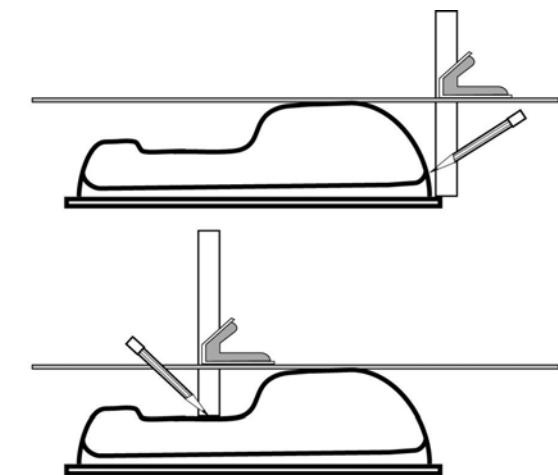
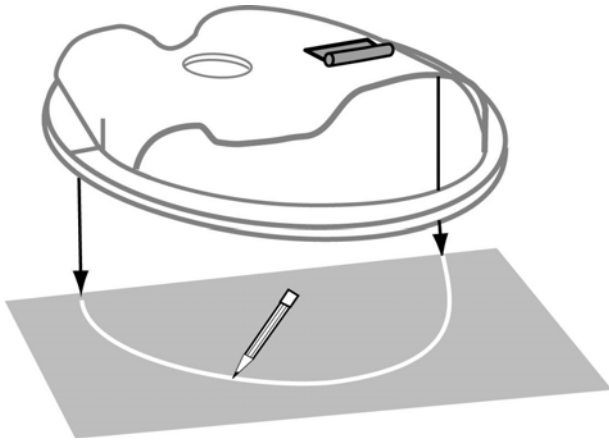

Figure 17
Figure 26
- Place a Square on the Straight Edge (**Figure 17**) and determine if the side of the Universal Deck Adapter would cover the Discharge Opening if it were located there. If not, locate the proper point and transfer that location to the top of your Mower Deck. Re-locate the Mounting Bracket to that position if necessary; keeping it parallel to the Reference Line. This will become the Reference Line for making the template.
- b) Draw a line across the top of your Mower Deck. Using the Square, extend the line down the sides at each end (**Figure 17** on page 12). Extending the Square from the Straight Edge to the contours can make more Reference Line points.
- a) Using the vertical Reference Lines (**Figure 17** on page 12), place the Template Board beneath the Discharge Chute with the leading edge aligned to the Reference Lines (**Figure 26**) and centered right to left.
- b) Clamp the Template Board in place and trace the outer edge of the Discharge Chute on to the Template Board (**Figure 26**).